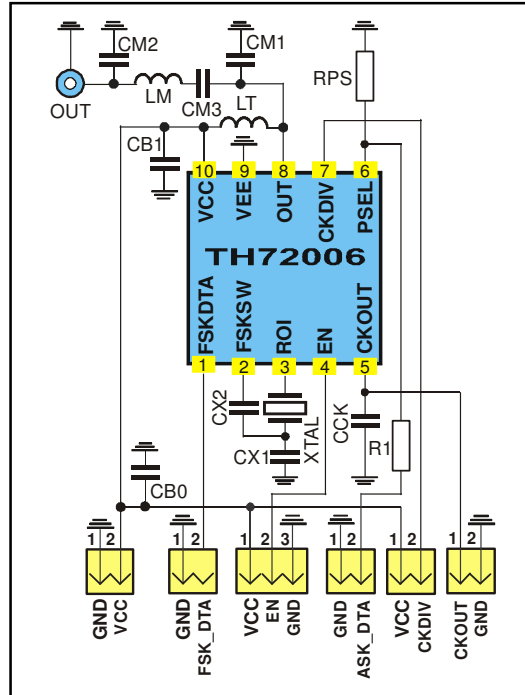

Fig. 6: Test circuit for FSK and ASK with 50 Ω matching network
typical values at $T_A = 23\text{ }^\circ\text{C}$ and $V_{CC} = 3\text{ V}$; test circuit shown in Fig. 6, $f_c = 315\text{ MHz}$
typical values at TA = 23 °C and VCC = 3 V; test circuit shown in Fig. 6
6.1 Test circuit component list to Fig. 6